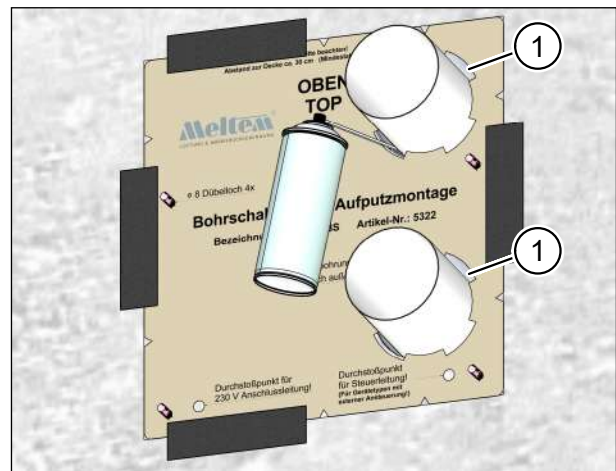

Fig. 24: Fixing the ventilation pipes
- ▶ Spray expanding foam through the recesses (item 1 in Fig. 24) in the drilling templates on the inside and outside of the wall in order to provisionally fix the ventilation pipes.